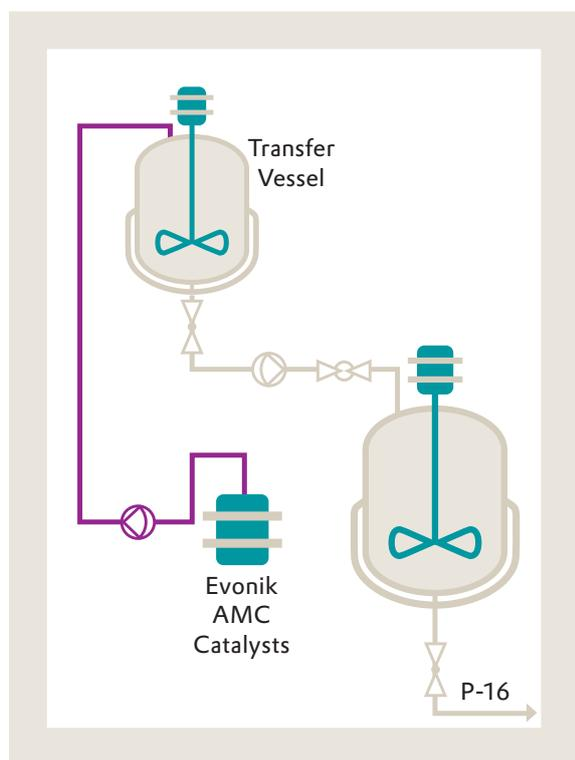

Figure 2
2. Carefully and quickly, rinse the drum into the transfer vessel, ideally with a diaphragm pump. (Figure 2)